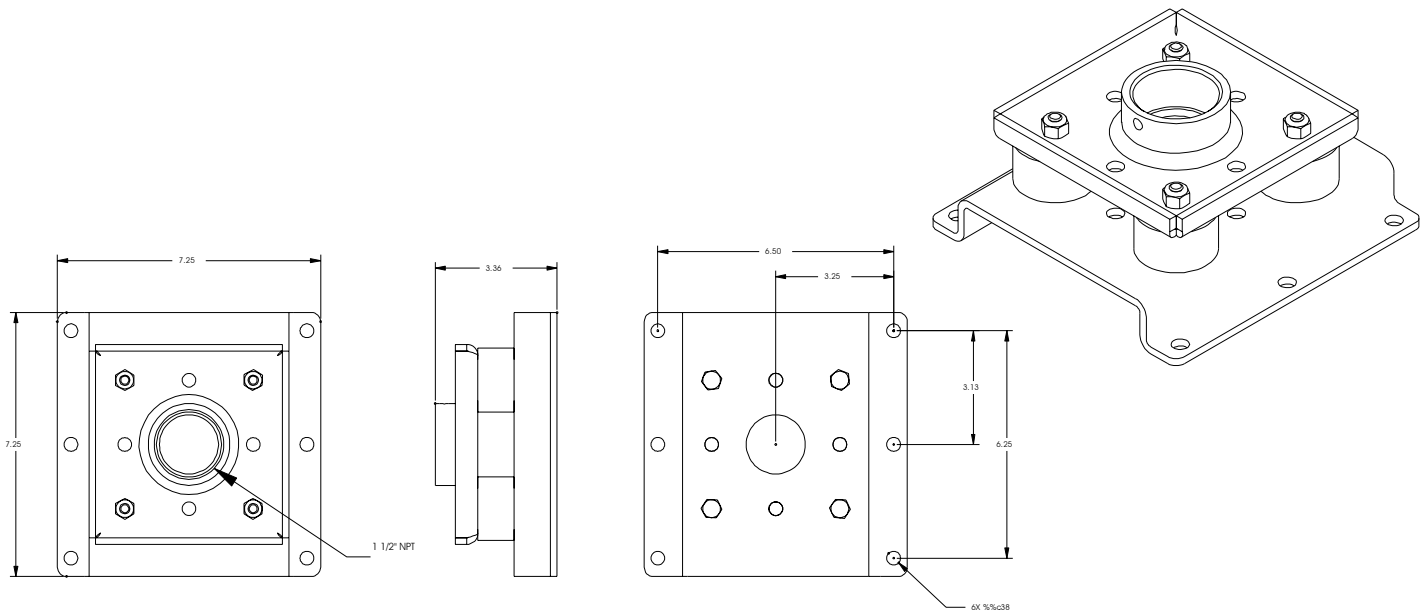

Figure 1. CMA-345 Dimensions
1. Secure ceiling plate to structural member. (**SEE WARNING ABOVE**) Bolt hole spacing is shown on Figure 1.